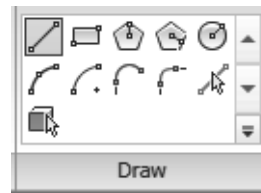

Figure 2–2
2. In the contextual tab>Draw panel, as shown in Figure 2–2, select a drawing tool.